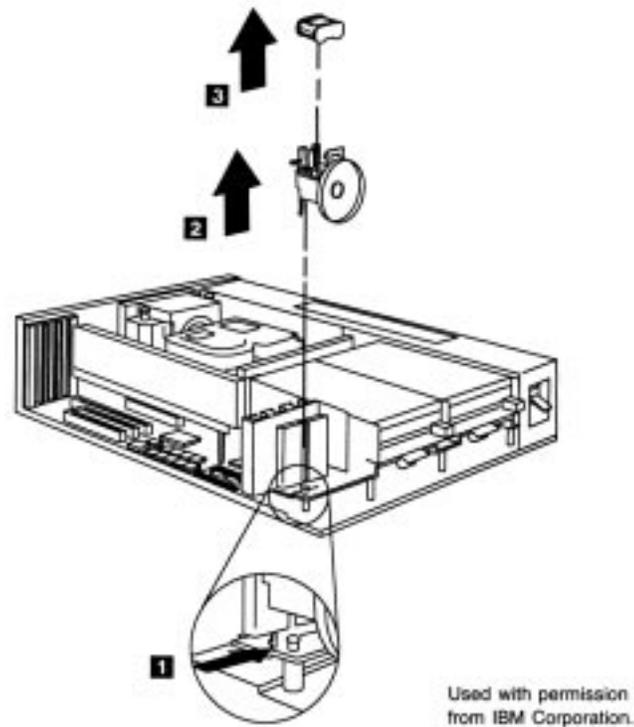

Fig. 3.28
3. Lift the entire battery-and-speaker assembly up and out of the system (see fig. 3.28).